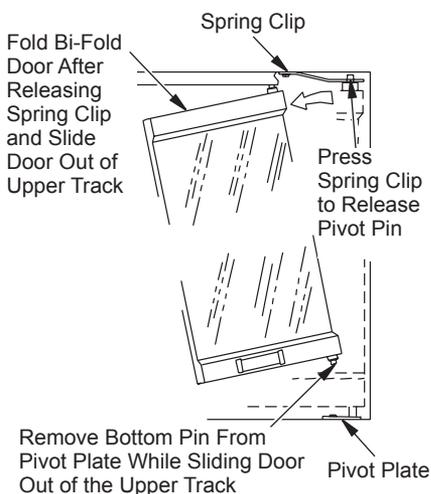

Figure 37 - Removing Glass Doors
- Fully fold frame assembly and slide upper edge towards center of firebox opening until guide pins are free of frame rail (see Figure 37).